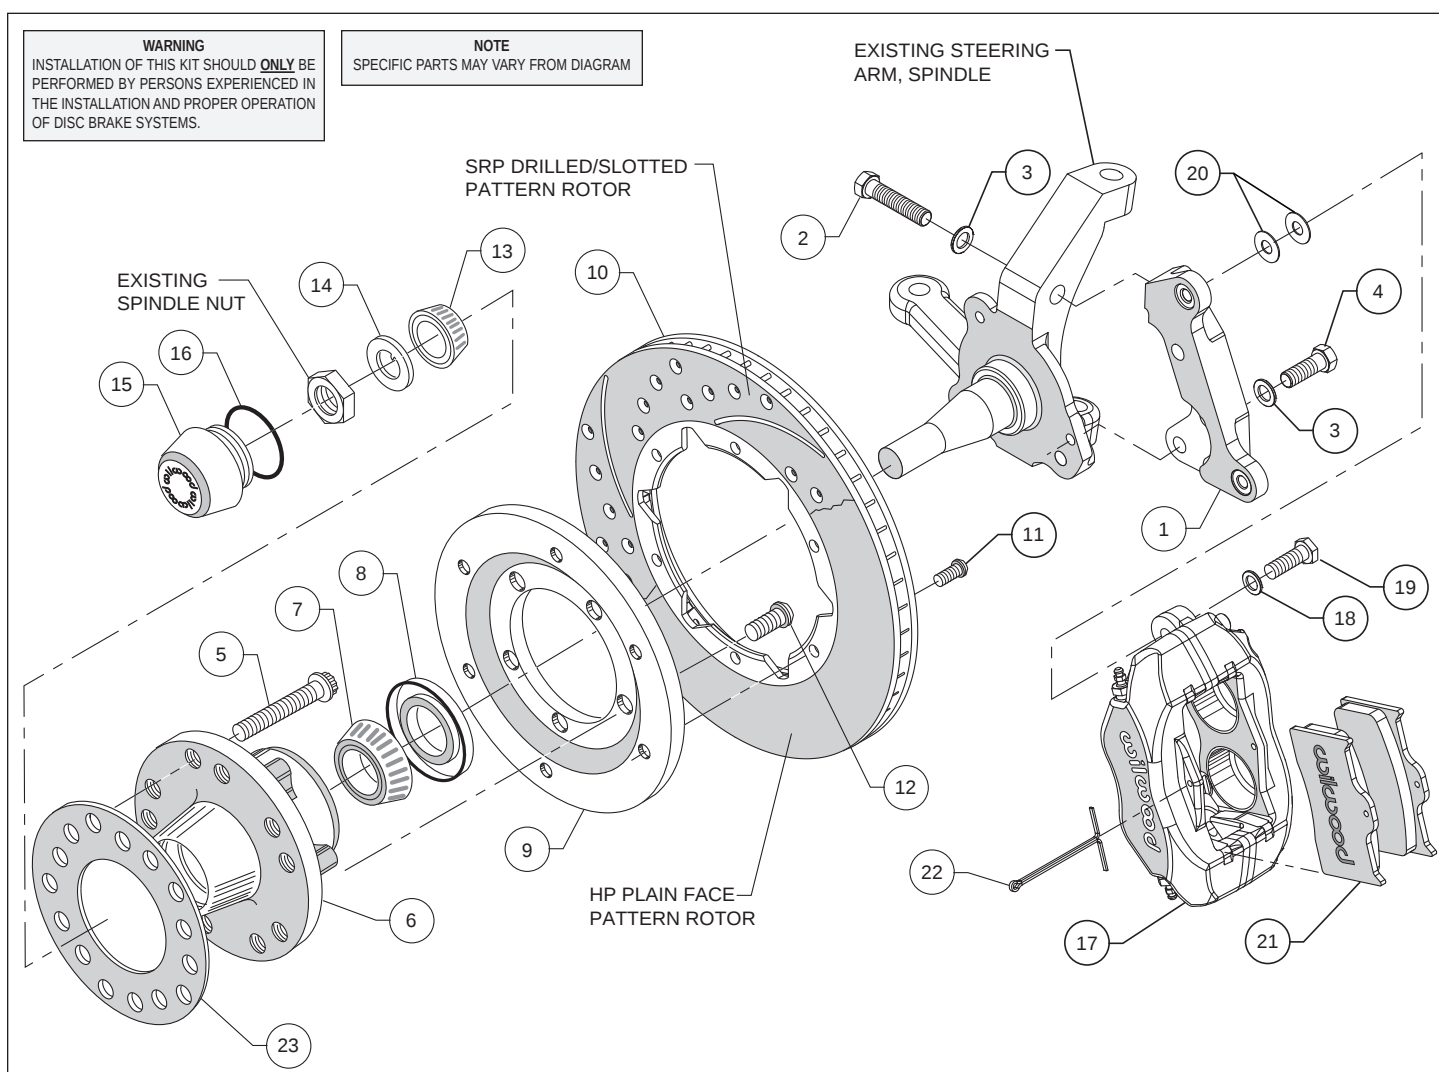
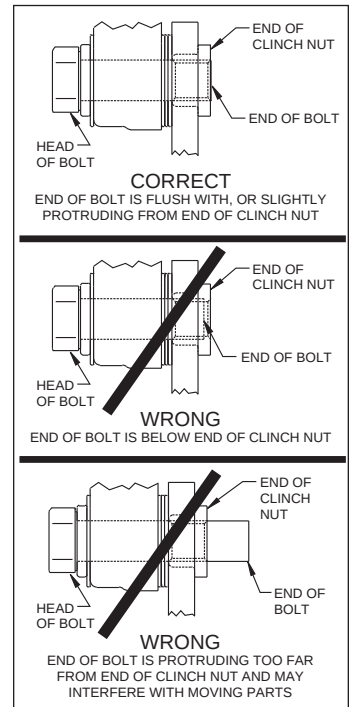

Figure 1. Typical Installation Configuration
Figure 3. Clinch Nut Engagement Diagram
Assembly Instructions (numbers in parenthesis refer to the parts list, on the preceding page and Figure 1): **CAUTION:** All mounting bolts must fully engage clinch nuts. Be sure to check that all bolts are either flush or protruding through flanged side of clinch nut after shimming, Figure 3.
- Align caliper mounting bracket (1) with the corresponding holes on the spindle. Attach using bolts (2 and 4) and washers (3) as shown in Figure 1 and Photo 1. Temporarily tighten the mounting bolts. Ensure that the flanged heads of the clinch nuts in the bracket are facing outboard, Photo 1. **NOTE:** The bracket must fit squarely against the mounting points on the spindle. Inspect for interference from casting irregularities, machining ridges, burrs, etc. Remove bolts one at a time, apply red *Loctite*® 271 to threads and torque to 47 ft-lbs.
- Install the grease seal (8) by pressing into the backside of the hub (6), flush with the end of the hub, Photo 3.
- Orient the rotor (10) and the rotor adapter (9) as shown in Figure 1 and Photo 4. Attach the rotor to the adapter using bolts (11). Using an alternating sequence, apply red *Loctite*® 271 to the threads, and torque to 25 ft-lb.
- Mount the adapter/rotor assembly (9/10) to the hub (6) using bolts (12), as shown in Figure 1 and Photo 5. Using an alternating sequence, apply red *Loctite*® 271 to the threads, and torque to 55 ft-lb.
- NOTE:** Please reference the caution statement at the beginning of the assembly instructions. Mount the caliper (17) onto the caliper mounting bracket (1) using bolts (19) and washers (18), as shown in Figure 1. Initially place two .035" thick shims (20) on each bolt between the caliper and the bracket, Photo 8. Temporarily tighten the mounting bolts and view the rotor (10) through the top opening of the caliper. The rotor should be centered in the caliper, Photo 9. If not, adjust by adding or subtracting shims between the bracket and the caliper. Always use the same amount of shims on each of the two mounting bolts. **NOTE:** The end of each bolt must be flush with or slightly protruding from the head of the clinch nut, as shown in Figure 3. If necessary place spare shims between washer (18) and caliper mounting ear to achieve the proper clinch nut engagement. Once the caliper alignment and clinch nut engagement are correct, remove the bolts one at a time, apply red Loctite® 271 to bolt threads, and torque to 40 ft-lb.
- Install the disc brake pads (21) into the caliper, with the friction material facing the rotor (10), and secure in place using cotter pin (22), Photo 10.